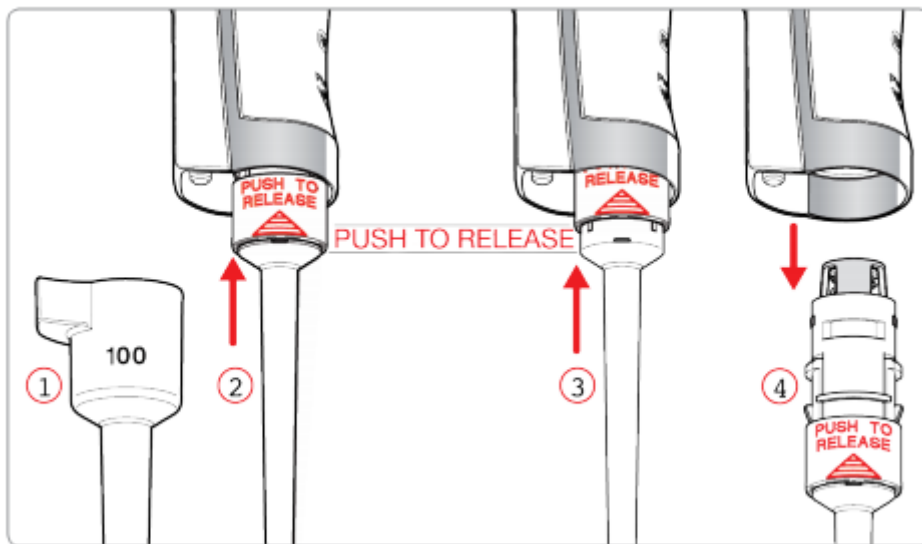

Figure 2: Removing the Lower Part
- 8.6.3. Remove the ejector sleeve by holding down the ejection button and pulling on the ejector sleeve (Figure 2: Step 1).
- 8.6.4. Slide up the ring on the lower part with the label "PUSH TO RELEASE" approximately 5mm until the lower part is released (Figure 2: Step 2 & 3).
- 8.6.5. The lower part is then removed from the upper part (Figure 2: Step 4).